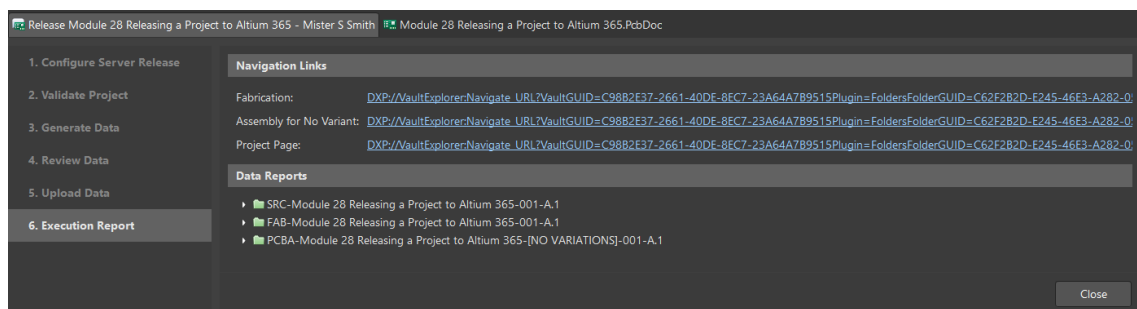

Figure 7. Execution report
27. In Step 5 of the Release Process, as shown in Figure 7, will now upload the data to the Server (Altium A365 Cloud).
28. Step 6 of the Release Process, as shown in Figure 7, the Execution report, indicates the release Process is now complete.